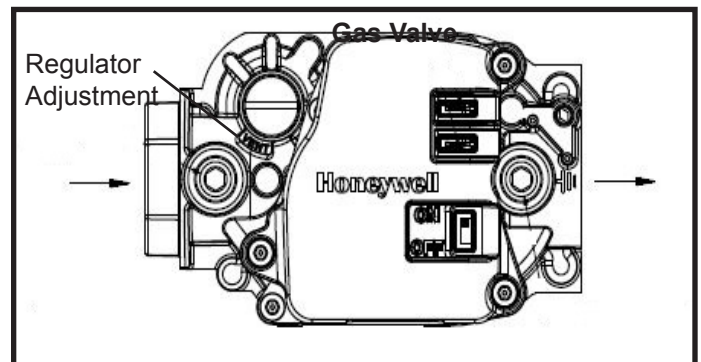

Figure 7
3. Slide the gas valve switch to the "ON" position (see Figure 7).
2. Slide the gas valve switch to the "OFF" position (see Figure 7).
The manifold pressure can be measured by shutting off the gas, removing the pipe plug in the downstream side of the gas valve, and connecting a water manometer or gauge. **Under no circumstances should the final manifold pressure vary more than 0.3" w.c. from the above specified pressures.** To adjust the regulator, turn the adjusting screw on the regulator clockwise to increase pressure and input or counterclockwise to decrease pressure and input. See Figure 7 to assist in locating the regulator on the gas valve.